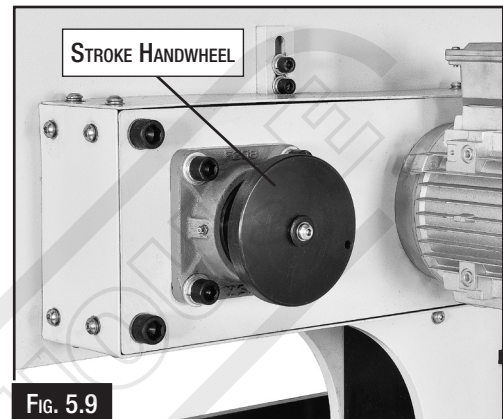

FIG. 5.9
1. Turn the stroke handwheel to raise the upper die slide to the top point of the stroke. (Fig. 5.9)